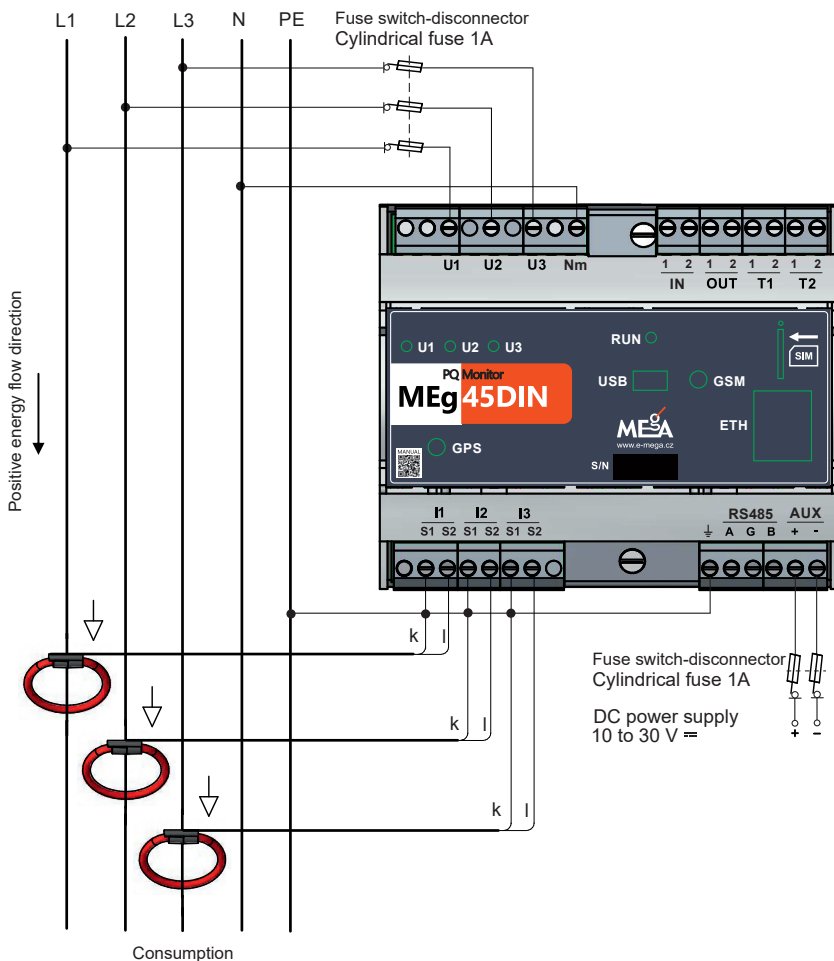

Fig. 13: Connection of MEG45DIN two-stage inputs and temperature sensors
The connection of the **IN** two-stage input and Pt1000 temperature sensors of the MEg45DIN monitor is shown in Fig. 13. The switching contact circuit is powered from the monitor by a galvanically free voltage with a common point **G** on pin 2 of the **IN** input. This galvanically free voltage also supplies the separate RS485 interface circuits. The two-stage **IN** input can also be powered by an external power supply with rated voltages from 12 V to 24 V.
8. The galvanically free switching contact of the external device powered by the internal 5 V voltage of the MEg45DIN monitor in Figure 13 is connected to terminals **1** and **2** of the **IN** input. If the switching contact is grounded at one pole, this pole must be connected to terminal **2** of the **IN** input, which is connected to the RS485 interface shield via the common conductor **G** in the monitor.